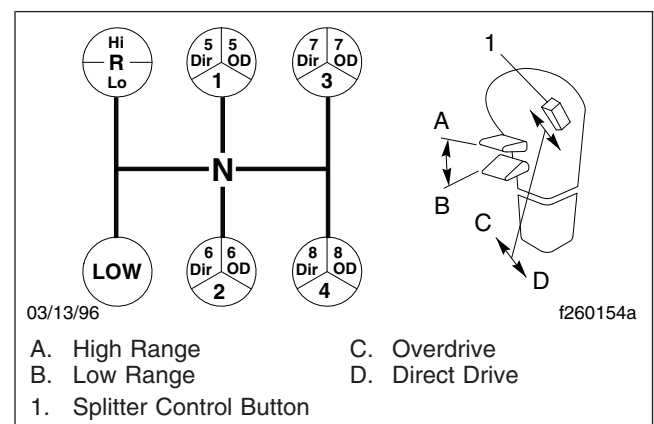

Fig. 8.17, Meritor 13-Speed Transmission Shift Pattern
Meritor 13-speed transmissions have 13 forward speeds and two reverse speeds. Each transmission consists of a 5-speed front section, and a 3-speed auxiliary section. The auxiliary section contains low and high range ratios, plus an overdrive splitter gear for high range. See Fig. 8.17.
4. While in 5th direct, and ready for the next downshift, push the range selection lever down into low range. Double-clutch through neutral, and shift into 4th gear. See **Fig. 8.17**. As the shift lever passes through neutral, the transmission will automatically shift from high range to low range.